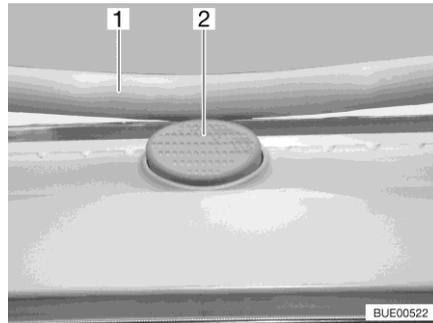

Fig. 87 Safety knob (Heki skylight)
- Press the safety knob (Fig. 87,2) and pull the bar (Fig. 87,1) down with both hands.
- Push the bar upwards with both hands until it is above the safety knob (Fig. 87,2).